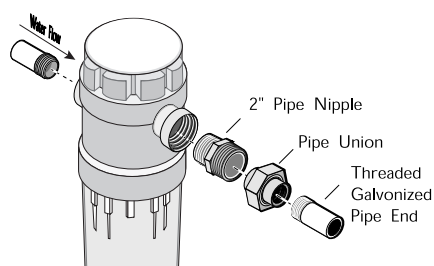

Figure 4
- Assemble the union and tighten the large nut securely. Make sure that the pipe ends align and that the union is clean for a water-tight fit (no tape or compound on the union-half threads). See Figure 4.